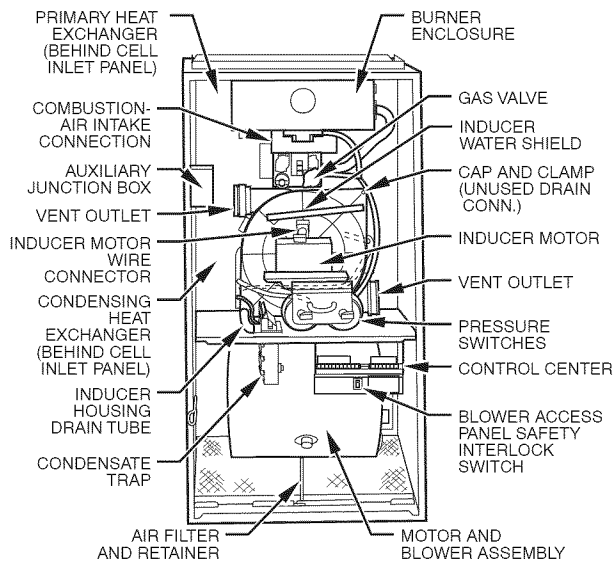

Fig. 1 - Inducer Motor Assembly in Upflow Furnace Orientation
4. Remove pressure switch assembly by removing 2 screws. (See Fig. 1.)
8. Remove Inducer Water Shield (if present) by removing 2 screws. (See Fig. 1.)
7. Remove Inducer Water Shield by removing 2 screws. (See Fig. 1.)